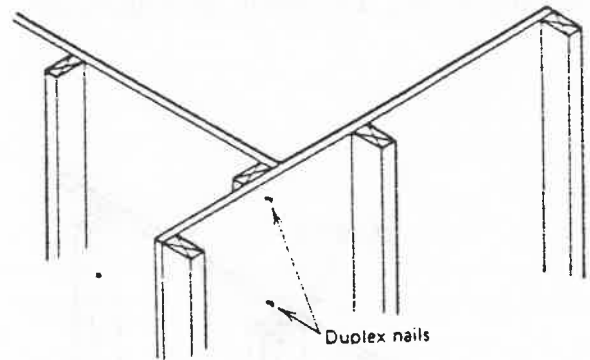

Figure 26
2. Set the corner form that joins the corner that was set in item 1 above and nail with duplex nails as shown in Figure 26.